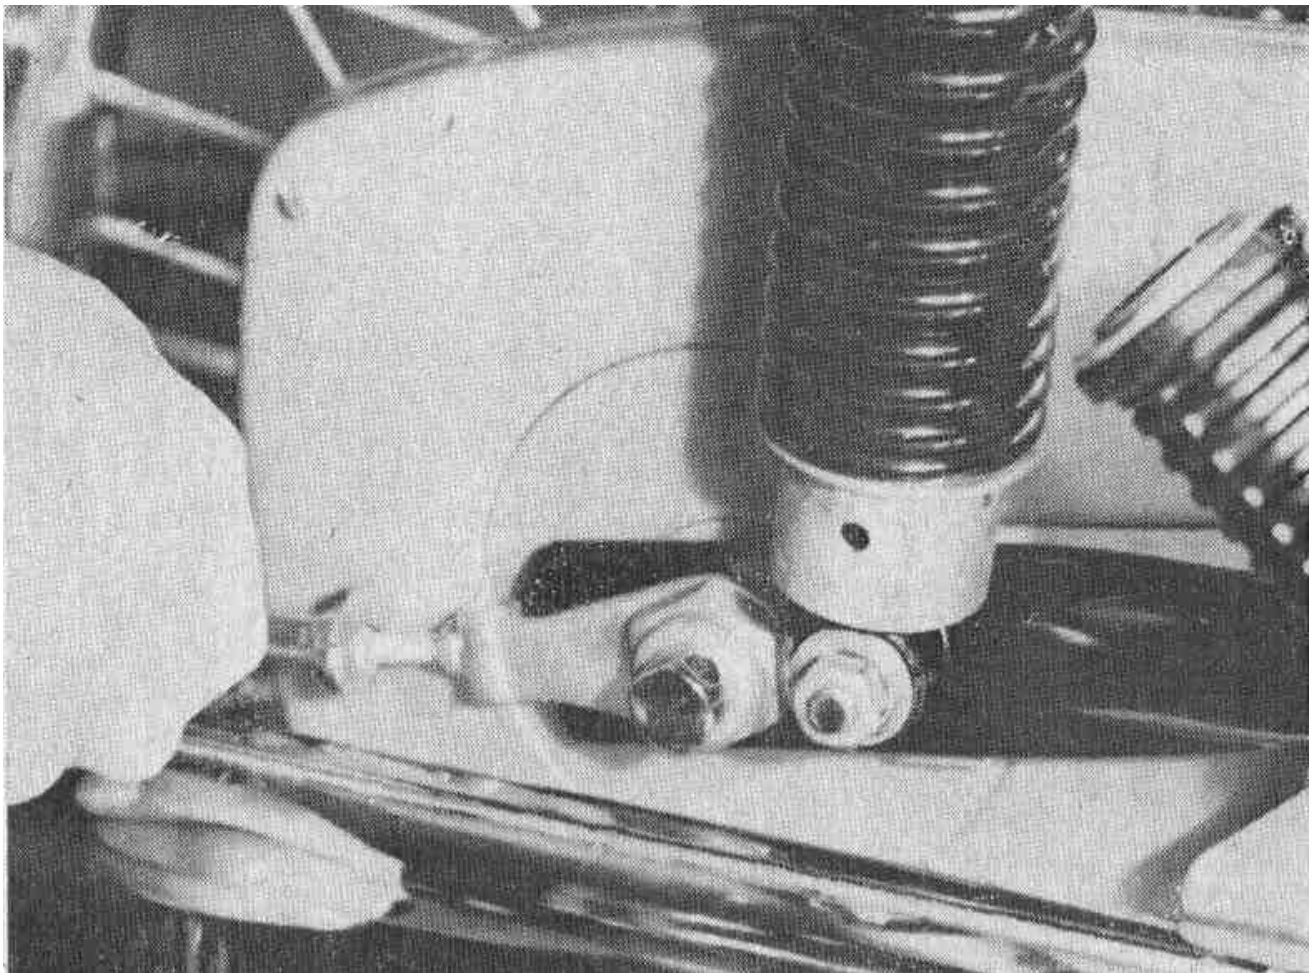

Fig. 19
6. CHAIN TENSIONING (Fig. 19)
- Take up the slack of the chain by tightening gradually both tensioner screws by the same value (for example, half a turn) (see Fig. 19).